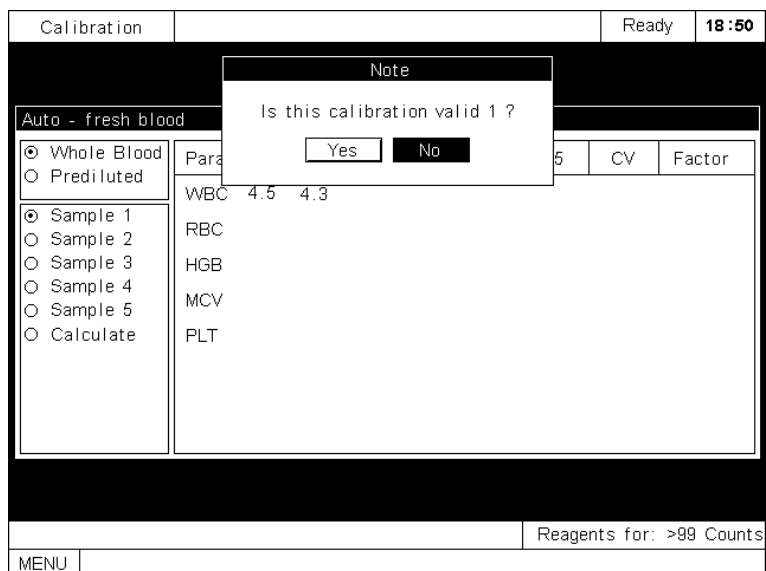

Figure5-20 The dialog box to confirm the calibration is valid
- If the obtained result is valid, a dialog box will pop up to ask you confirm the calibration, as Figure5-20 shows.